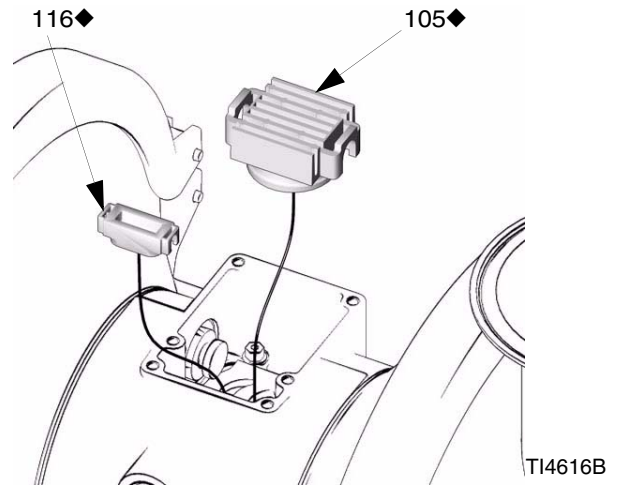

FIG. 7
3. Move the valve carriage (105) to the center position and pull it out of the cavity. Using a needle-nose pliers, pull the pilot block (116) straight up and out of the cavity. See FIG. 7.